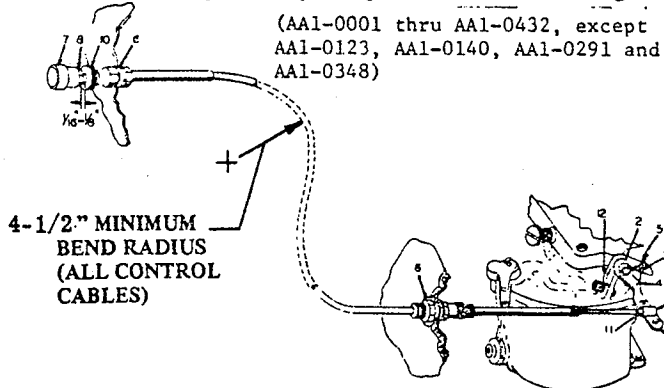

FIGURE 6-1 CARBURETOR THROTTLE ARM AND CABLE RIGGING
- b. Check throttle arm position (1, figure 6-1). This must be  $42^\circ \pm 5^\circ$  forward of vertical when the throttle is wide open.